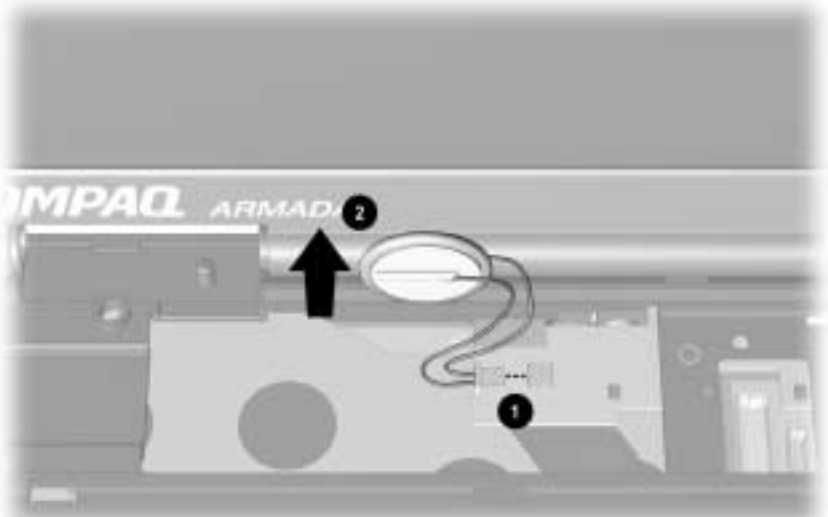

Figure 5-16. Removing the Real Time Clock Battery
3. Disconnect the RTC battery cable from the LED board ❶ (Figure 5-16).
4. Remove the RTC battery from the base enclosure ❷.